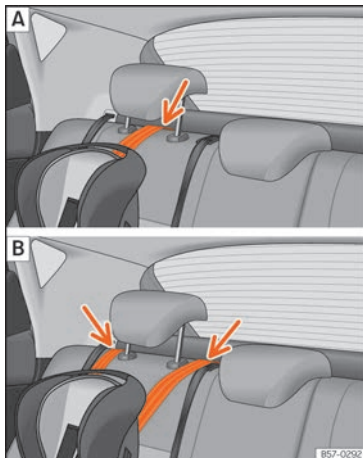

Fig. 28 Rear seats: adjustment and assembly according to the Top Tether belt.
- Place the belt under the headrest of the back seat » **Fig. 28** (depending on the instructions of the chair itself, lift or remove the headrest if necessary).